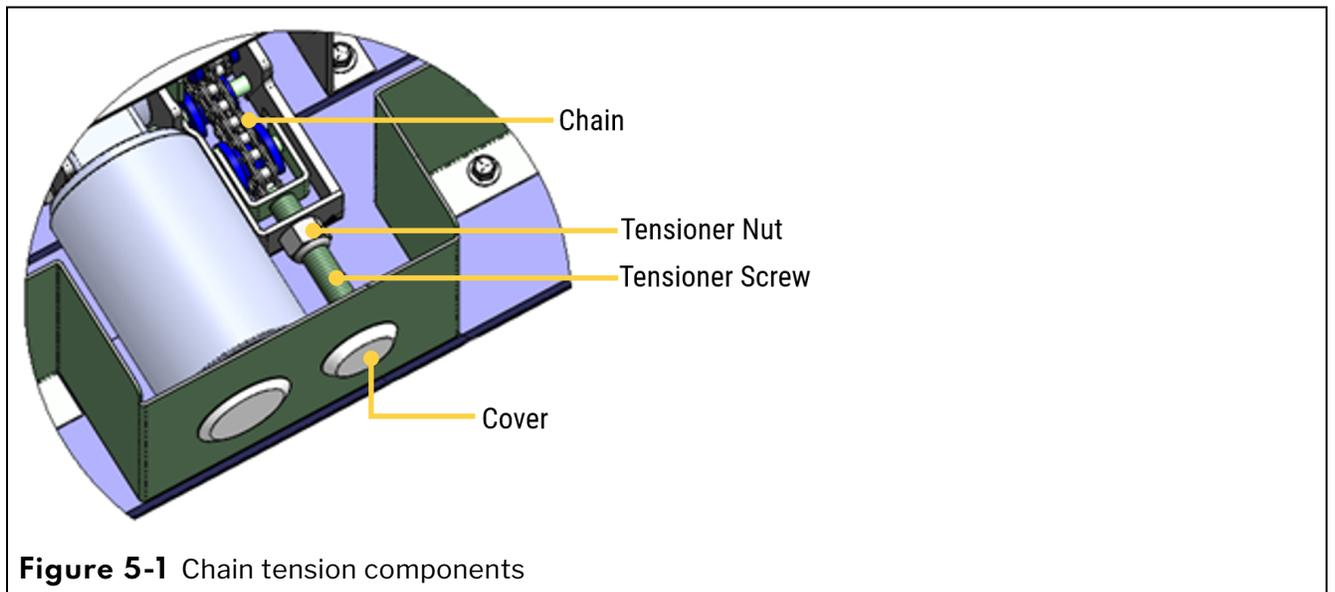

Figure 5-1 Chain tension components
2. Use a 3/4" wrench on the tensioner nut to tighten or loosen the tensioner screw as required. Refer to Figure 5-1 below.